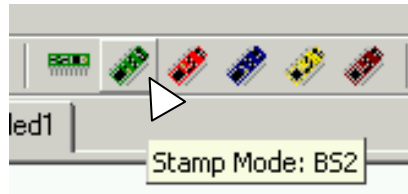

Figure 1-34
- √ Begin by clicking the BS2 icon (the green diagonal chip) on the toolbar, shown highlighted in Figure 1-34. If you hold your cursor over this button, its flyover help description “Stamp Mode: BS2” will appear.